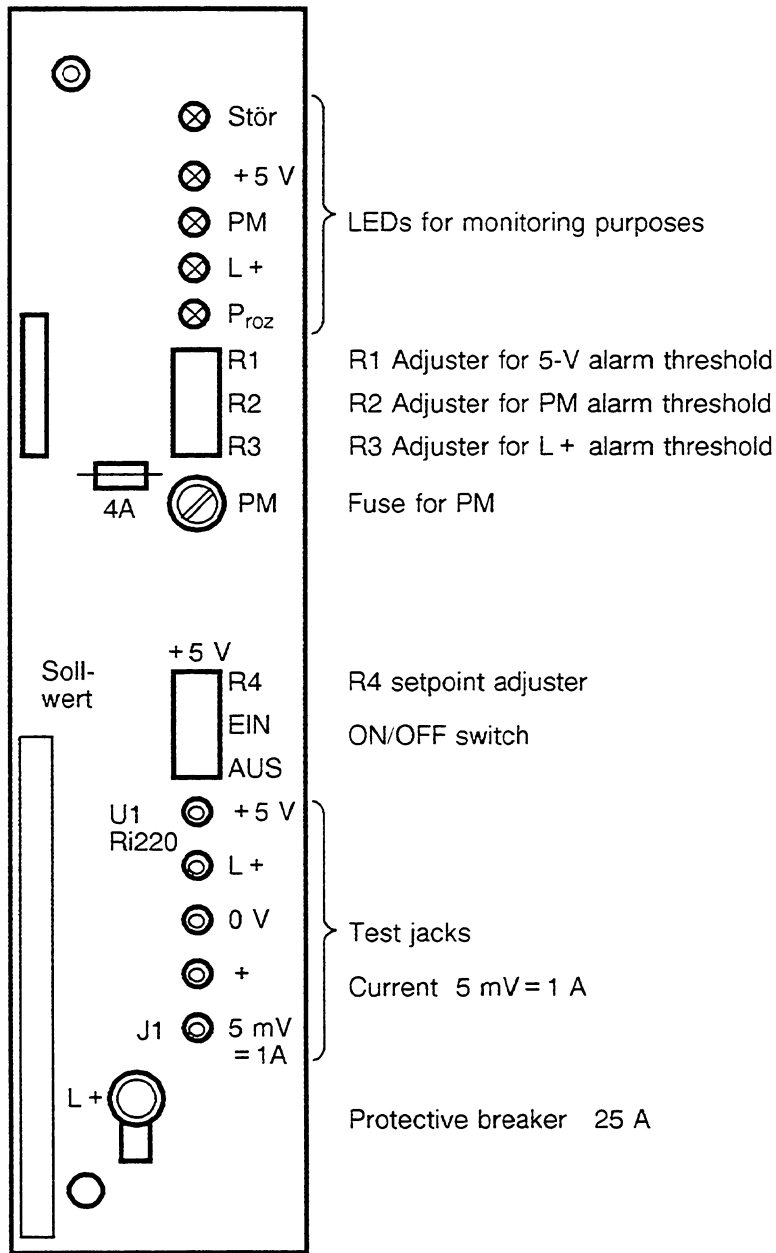

Fig. 6 Controls on the power supply module 24 V/5 V, 18 A
Two controls (see Fig. 6) are located on the power supply module 24 V/5 V, 18 A (SV1) for switching off the 24-V power supply (L+) and 5-V output voltage. Furthermore, the 5-V voltage setpoint can be adjusted using potentiometer R4. Both controls (switch and potentiometer) are protected by a cap on the front panel. Test jacks are located on the front panel for testing the voltages (output and input voltages) and the current. Potentiometers R1, R2 and R3 can be used to set the alarm threshold of the +5-V output voltage, +24-V alarm voltage (PM) and +24-V supply voltage.